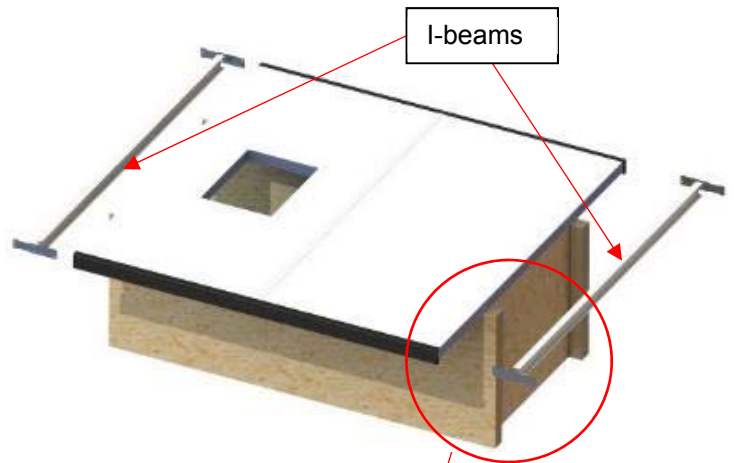
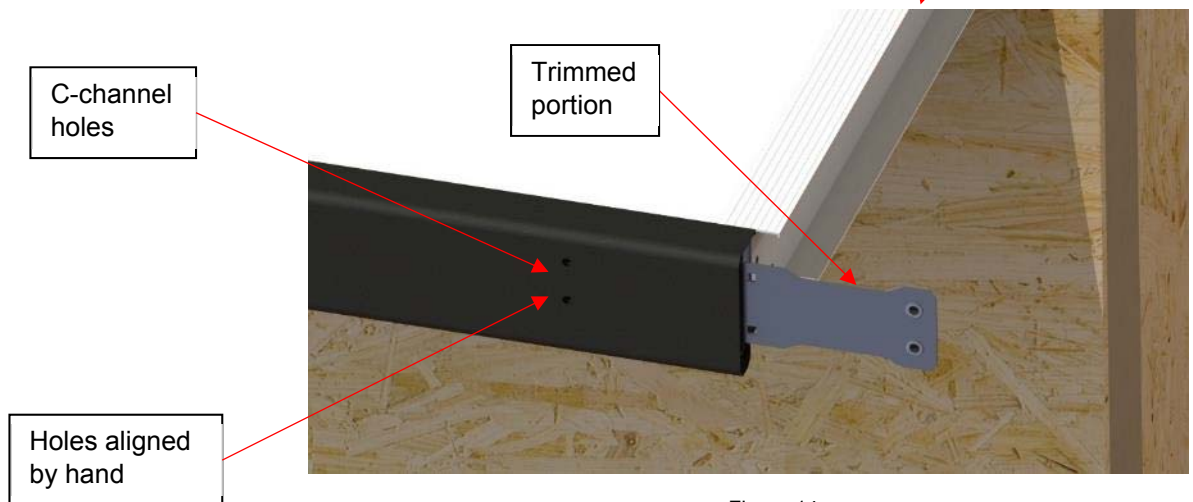

Figure 13
Figure 14
11) Install the I-Beams with the long I to C connection plates. Ensure the trimmed portion of the I to C connection plate faces toward the end of the cover (Figure 13 and Figure 14).
12) Align by hand the C-channels (left and right sides) in such a matter that the I to C connection plate holes are visible (Figure 14).